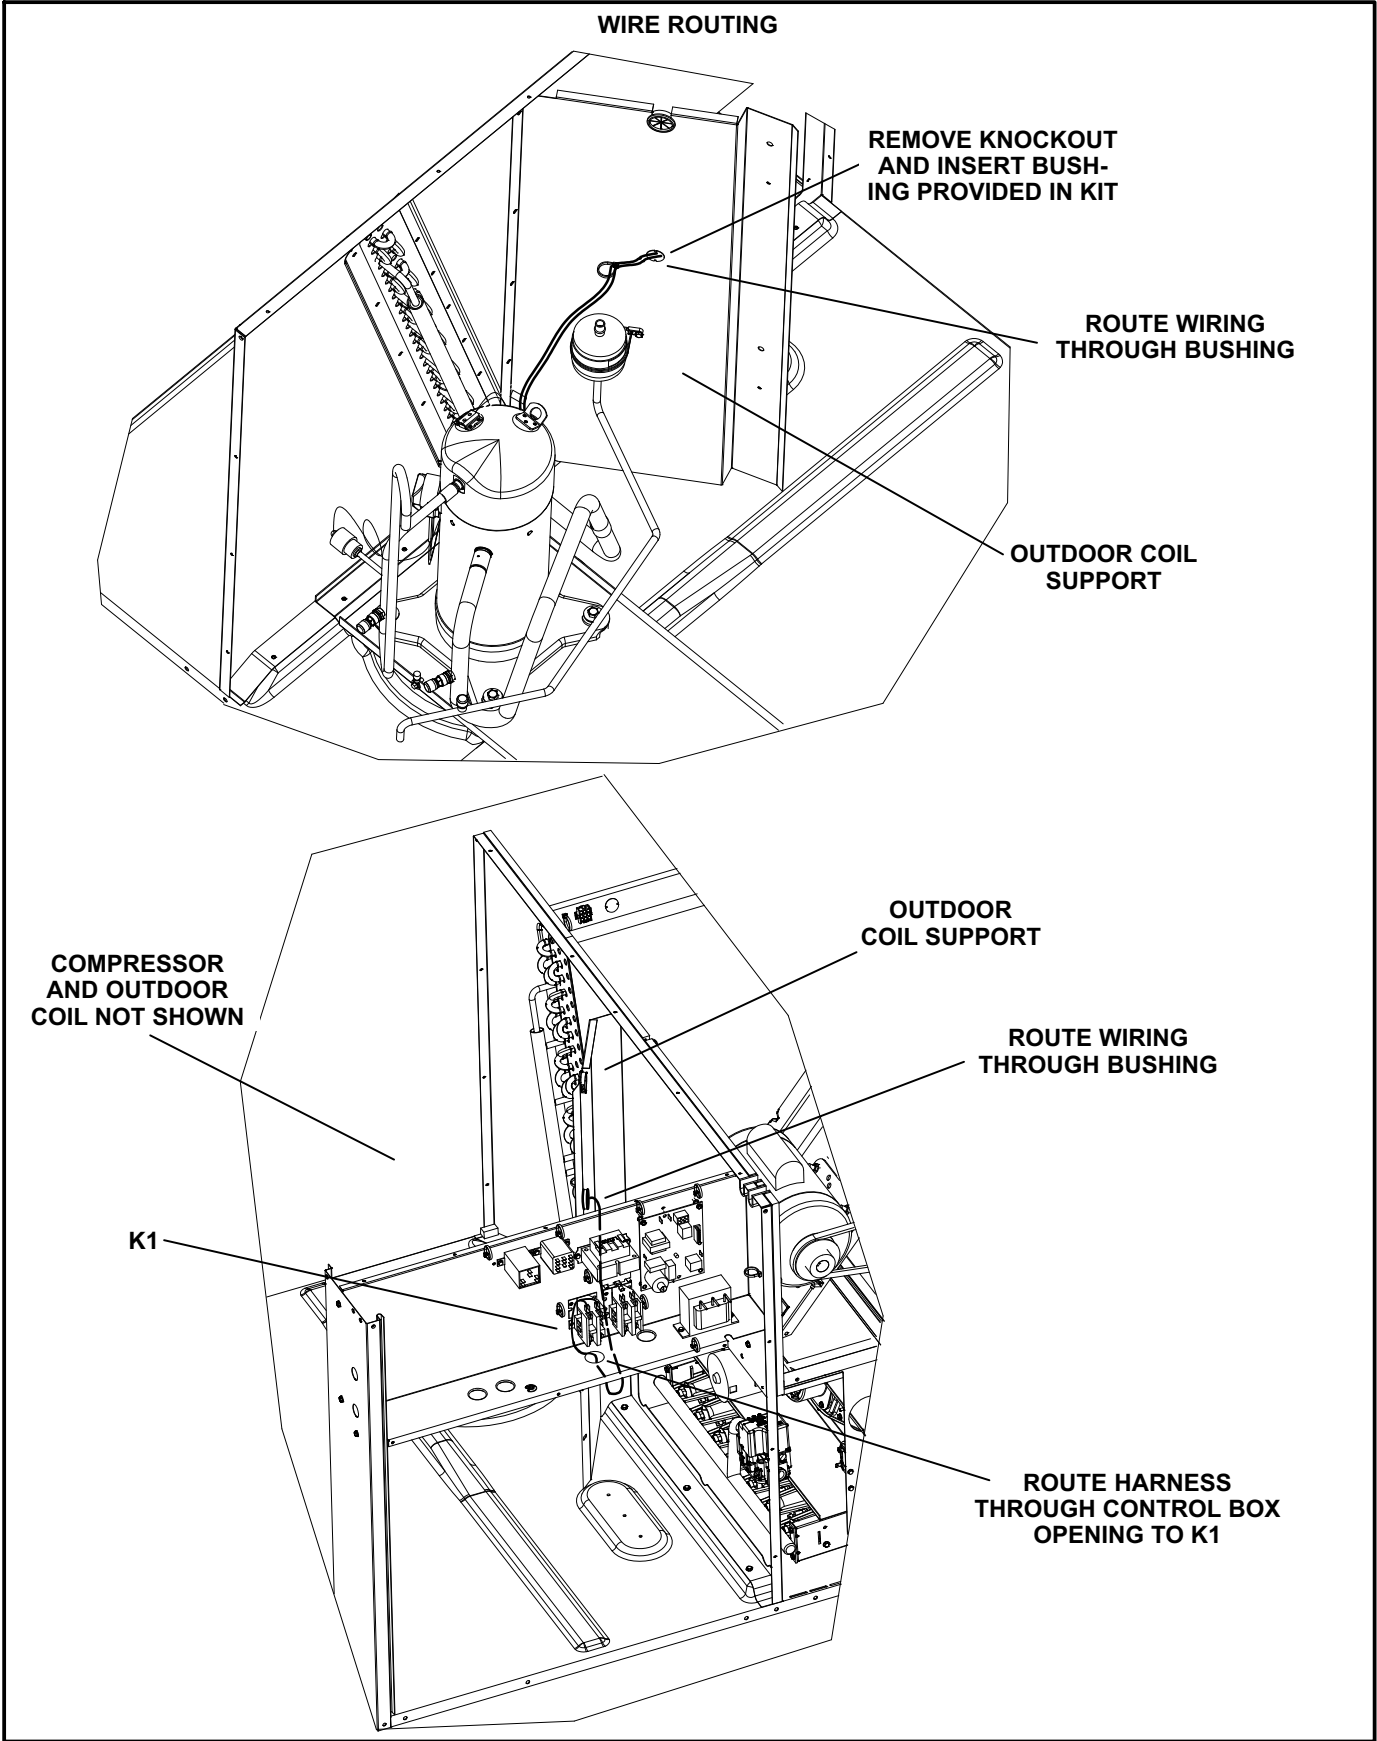

FIGURE 2
- 3- Remove the knockout located in the outdoor coil support. See figure 2. Insert the web bushing that is included in the bag assembly.
- 4- Route harness to control box as shown in figure 2.